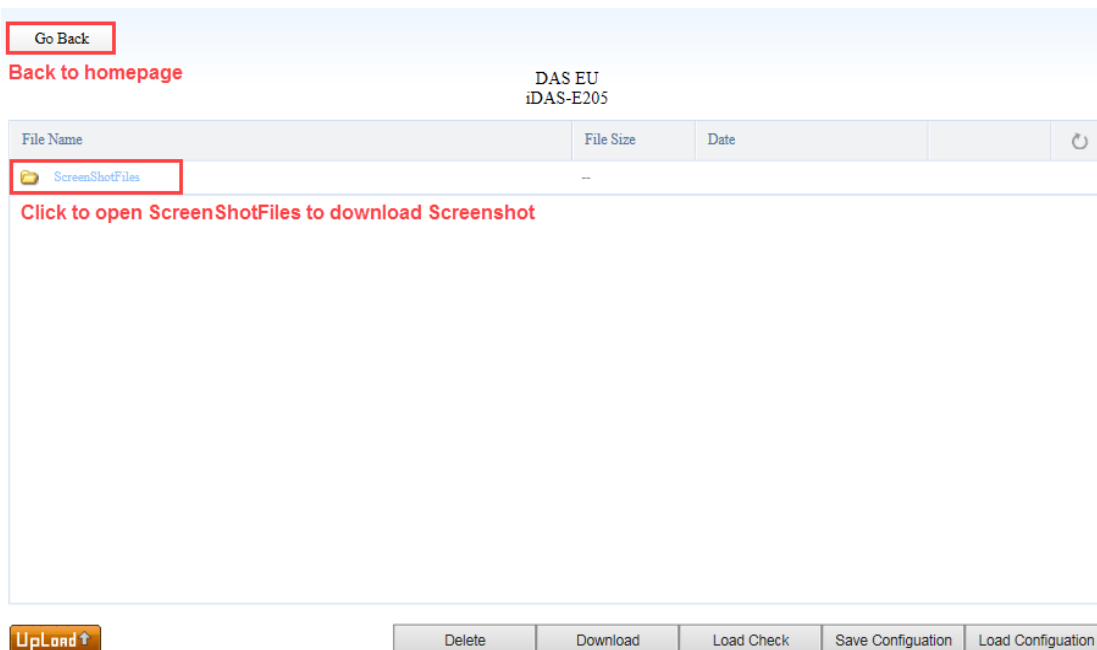

Figure 3-13 Configuration Page
- f) Click **ScreenShotFile** to open it. See Figure 3-13 for details.